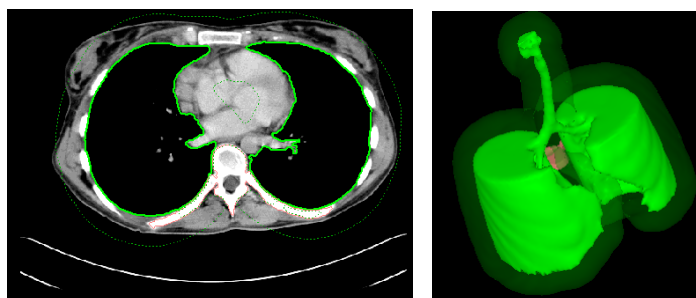

Figure 258 – Created ROI margin in 2D and 3D
5. Click the **Calculate** button. The created margin will be displayed as a dashed line (see Figure 258).